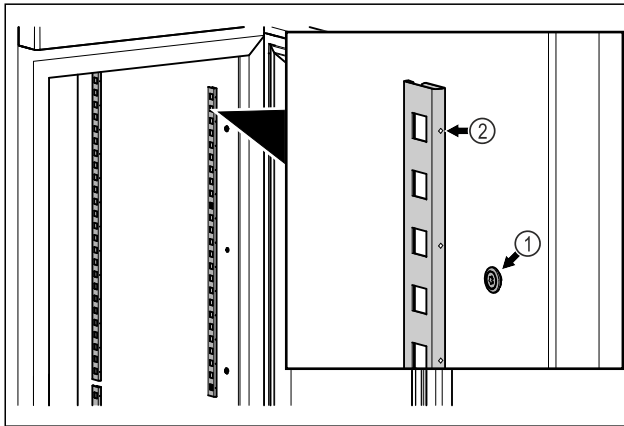

Fig. 85 Example illustration
- Hook the snap strips into the suspension Fig. 85 (1). Mark Fig. 85 (2) must point forwards.